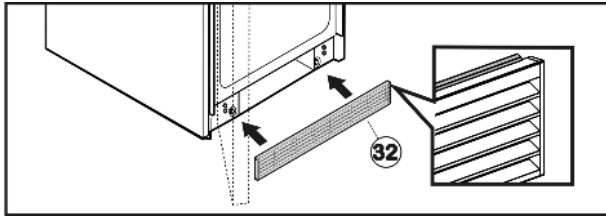

Fig. 37
- ▶ Fit lower ventilation grille Fig. 37 (32) flush with the floor such that the rubber lip is at the top. It is held in place via magnets.